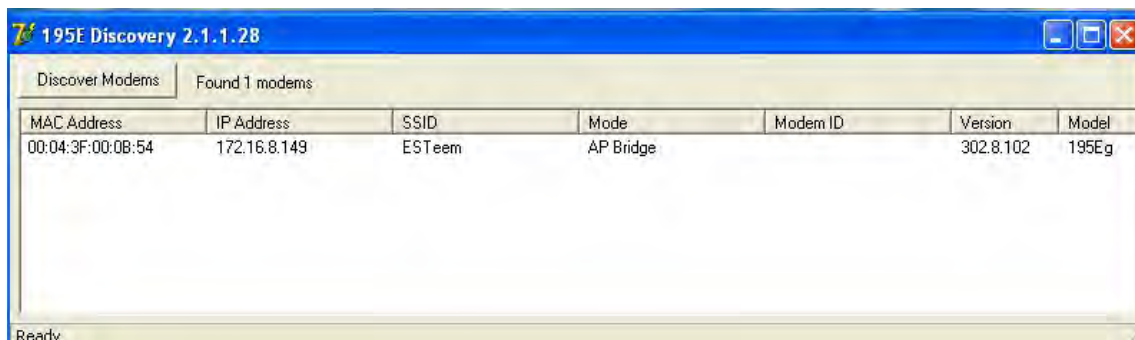

Figure 4: Discovery Program Main Page
- Connect the Model 210 to your computer either directly to the Ethernet card or through a HUB/Switch using a CAT-5e Ethernet cable. The Ethernet port on the 210 supports Auto-Negotiation, so either a patch cable or crossover cable will work. Open the ESTeem Discovery Program and press the Discover Modems button. The Model 210 will be displayed in the program by the Ethernet MAC address and Current IP Address (Figure 4).